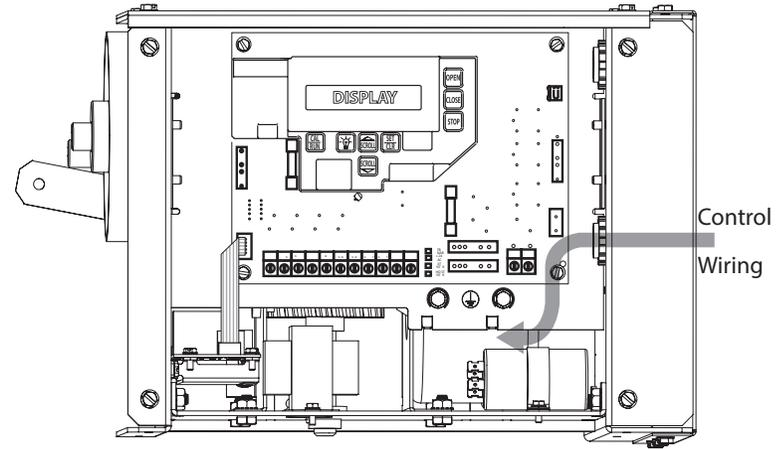

Figure 14
1. Route control wiring as per Fig. 14